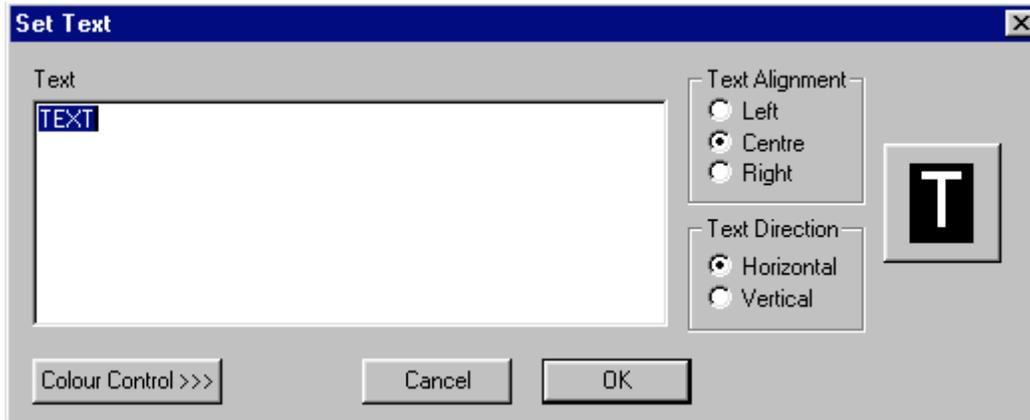

Figure 8.5 – Set Text (Colour Control Disabled)
5. The Set Text window opens Enter the required text and colour information(Fig 8.5)
On TIU3XX/TIU4XX/TIU5XX/TIU6XX systems a 'Colour Control >>>' button is displayed. Click on this button if it is required to modify the colour of a text field under control of the system. Clicking on this button will toggle the dialog box between the two formats as in Figures 8.5 and 8.6.